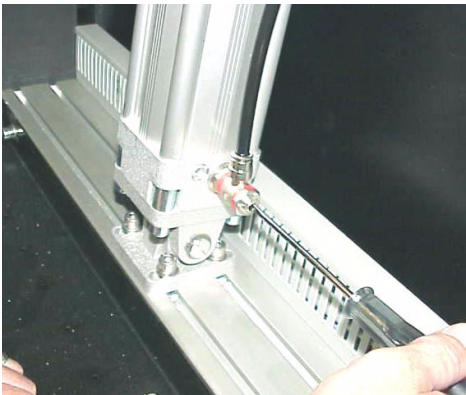

Figure 43. **Turning the Adjusting Screw**
5. Working on the Y-axis piston (or pistons) requiring adjustment, use a small flat screwdriver (as shown in Figure 43) to turn the relevant adjusting screw (upper or lower) in the appropriate direction, and for the required amount of adjustment, as follows: